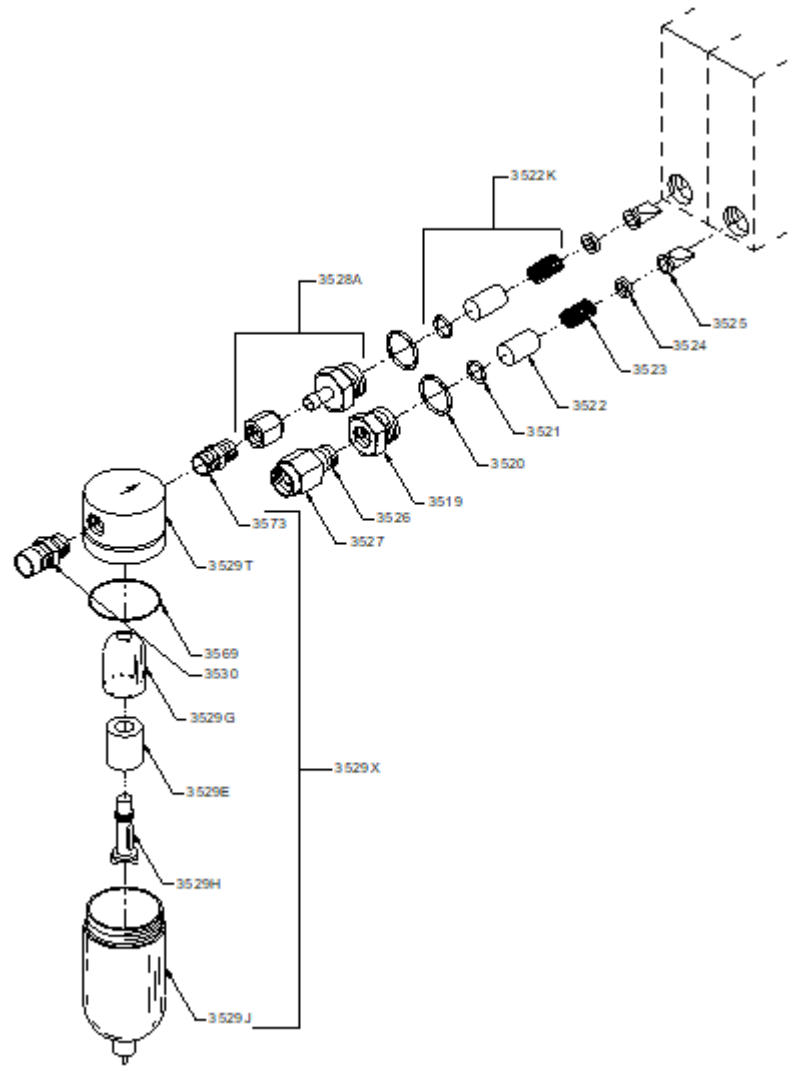

Figure 4
- Periodically replace the air water trap/inlet filter (Sechrist P/N 3529E in Figure 4) at least every 6 months or as needed.